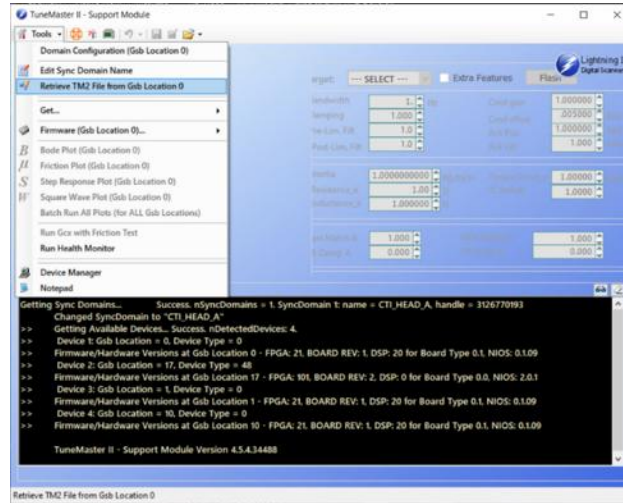

Figure 37: Retrieving TM2 file from Gab Location 0
1. From TuneMaster™ II Support Module, in the menu, click **Tools** → **Retrieve TM2 file from Gsb Location 0**; see Figure 37 on page 83.